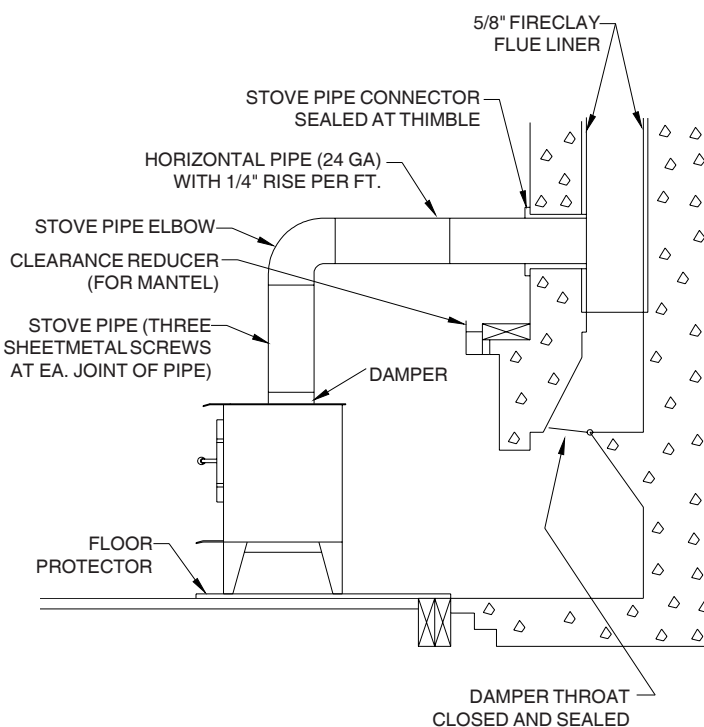

Fig. 7
1. Keep the chimney connection as short as possible. The heater must have its own chimney flue. Do not connect any other appliance to the same flue. If there is no chimney where you wish to place the heater, you can use a UL Listed Type 103 HT, Solid Fuel, Factory Built Chimney. (Figure 7)